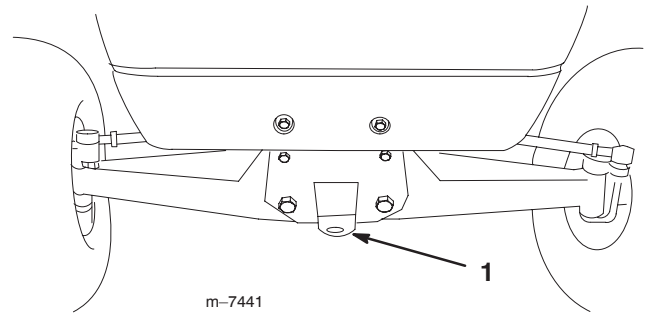

Figure 22
2. Affix a tow line to the tongue on the front frame member (Fig. 22).